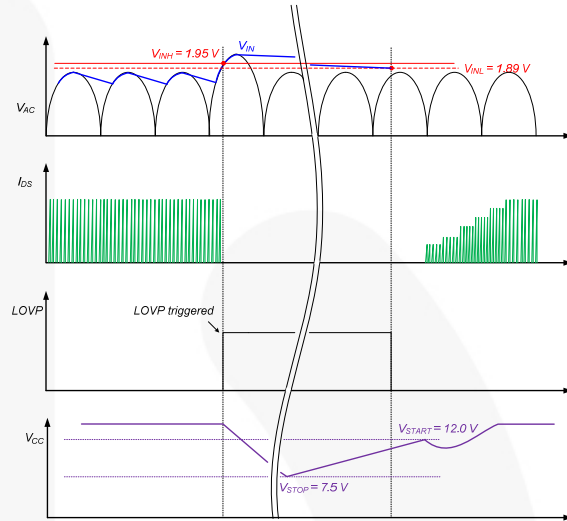

**Figure 23. Output-Short Protection**
**4.3. Output-Short Protection (OSP):** If the output is shorted, steep current with extremely high di/dt can flow through the SenseFET during the minimum turn-on time. Such a steep current creates high-voltage stress on the drain of the SenseFET when turned off. To protect the device from this abnormal condition, OSP is included. It is comprised of detecting  $V_{FB}$  and SenseFET turn-on time. When the  $V_{FB}$  is higher than 2.0V and the SenseFET turn-on time is lower than 1.0 $\mu$ s, the FSL117MRIN recognizes this condition as an abnormal error and shuts down PWM switching until  $V_{CC}$  reaches  $V_{START}$  again. An abnormal condition output short is shown in Figure 23.